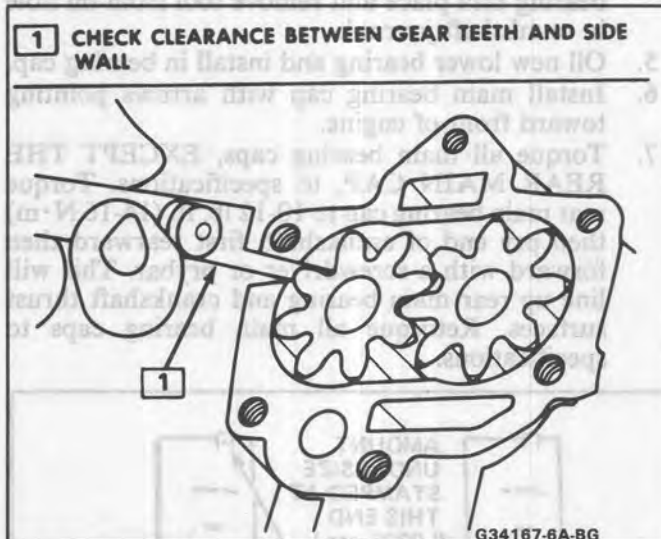

Figure 20 Measuring Gear Side Clearance
- Gear side clearance, if applicable (Figure 20)